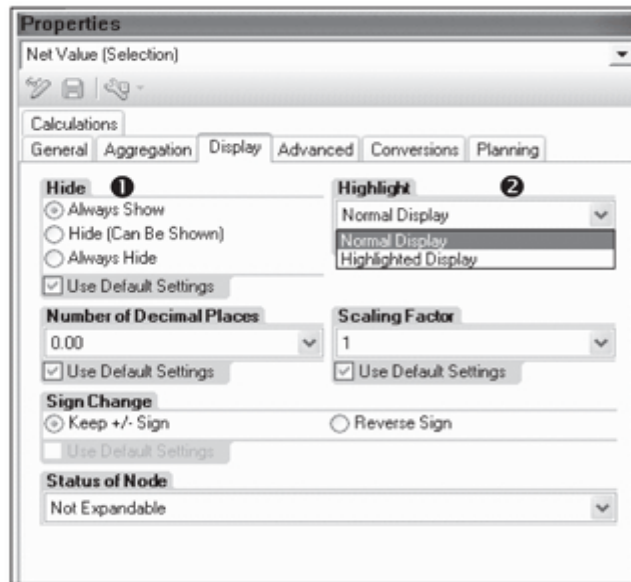

Figure 9.73 Key Figure Properties – Display Tab
On the Display tab of the properties, you have different options available to control the display of the key figure value in the query output (see Figure 9.73).
Use the settings under the Hide section (❶ of Figure 9.73), if you want to hide the key figure in the output. There is also an option available to highlight the key figure value under the Highlight section (❷). Additional settings related to the number of decimal places, scaling factor, and so on, can also be set on this Display tab.